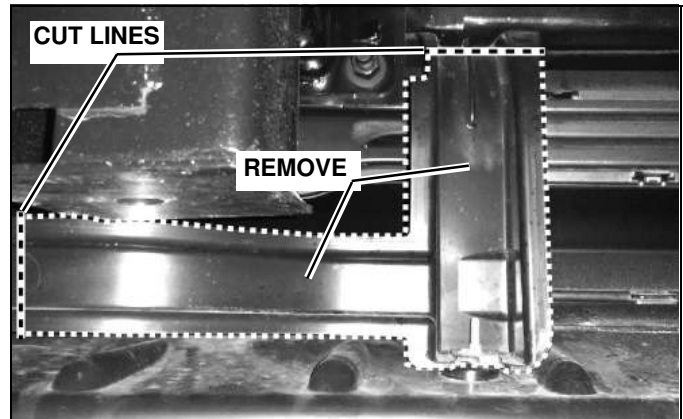

Figure 6
- c. Place (1) 1/2" Plain Washer (#8) over the threads of (1) 1/2"-13 x 1-1/2" x 8" Handle Bolt (#6). Secure the washer against the head of the bolt using a rubber band tightly wound around the bolt up against the washer. This will prevent the washer from falling off the bolt as it is inserted into the truck frame. Insert items (#6 & 8) into the truck frame, through the front drilled hole in the side of the frame, and item (#3). Secure loosely using (1) 1/2"-13 Nylock Nut (#13).
- e. Place (1) 1/2" Plain Washer (#8) over the threads of (1) 1/2"-13 x 1-1/2" x 15" Handle Bolt (#7). Secure the washer against the head of the bolt using a rubber band tightly wound around the bolt up against the washer. This will prevent the washer from falling off the bolt as it is inserted into the truck frame. Insert items (#7 & 8) into the truck frame, through the rear drilled hole in the bottom of the frame, and item (#3). Secure loosely using (1) 1/2" Plain Washer (#8) and (1) 1/2"-13 Nylock Nut (#13).
9. Attach the Vehicle Center Member (#1) to the Side Weldments, DS (#2) and PS (#3). Insert (4) Spacers (#4), 2 per side, as shown on the Part List. Secure using (8) 1/2"-13 x 2" Cap Screws (#12), (2) 1/2" Lock Washers (#9) in the threaded holes and (6) 1/2" Nylock Nuts (#13).
11. Reinstall the bumper. If the bumper has extra mount points for supporting the lower valance as seen in Figure 6, cut and remove where specified to prevent interference with the Vehicle Mount Kit first.